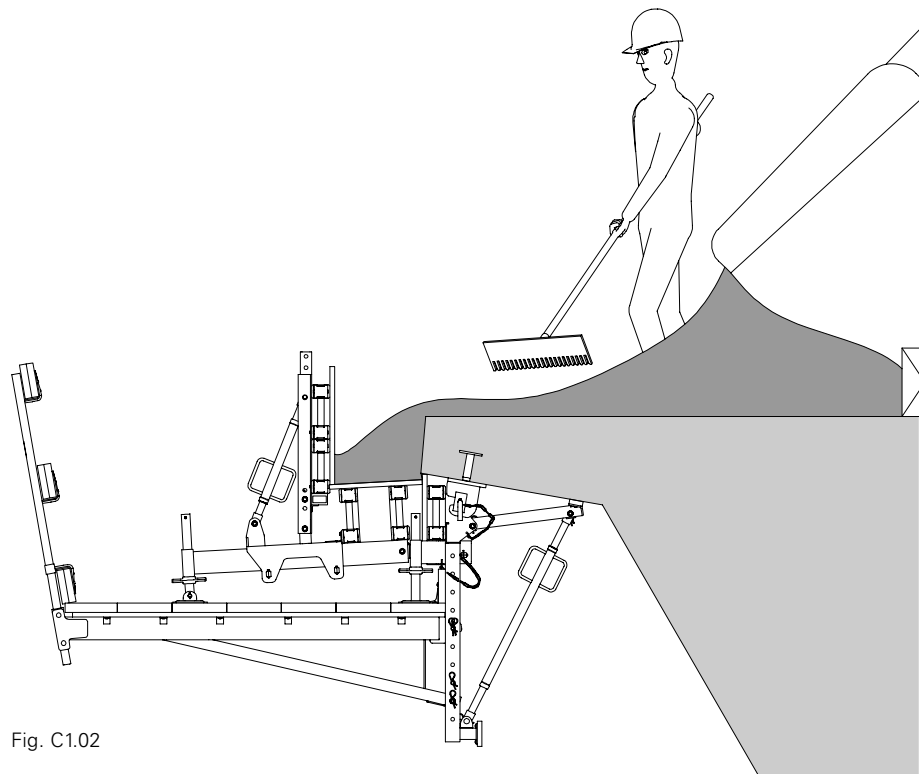

Fig. C1.02
3. Compact concrete. (Fig. C1.02)